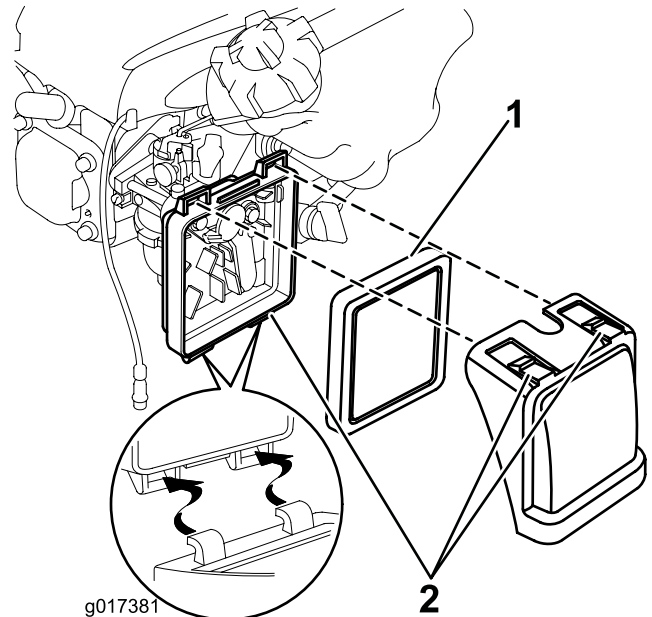

Figure 18
1. Press down on the latch tabs on top of the air-filter cover (Figure 18).
2. Open the cover (Figure 18).
3. Remove the air filter (Figure 18).
6. Insert the air filter into the air-filter body (Figure 18).
7. Install the cover (Figure 18).